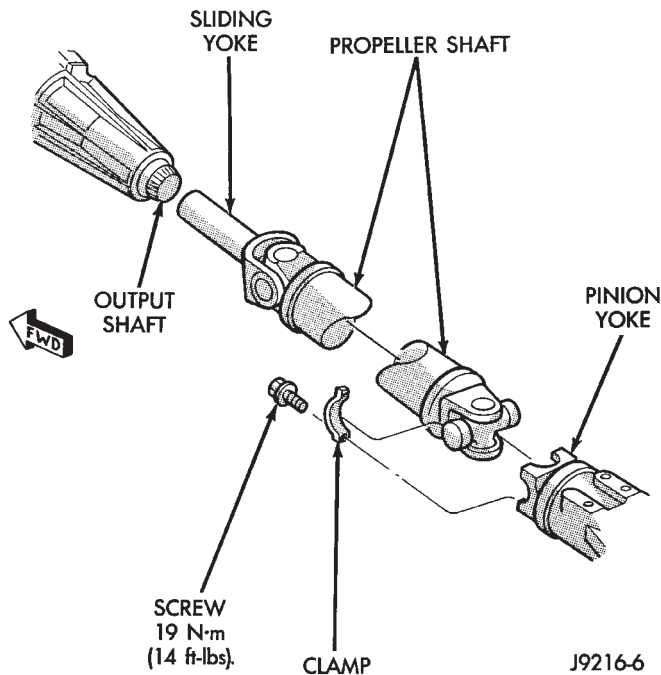

Fig. 13 Rear Propeller Shaft
(6) Remove bolts that attach the center bearing and heat shield to the support bracket, if equipped.
(7) Remove the bolts holding the universal joint clamps to the pinion yoke.
(8) Slide the slip yoke off of the transmission, or transfer case, output shaft and remove the propeller shaft (Fig. 13).